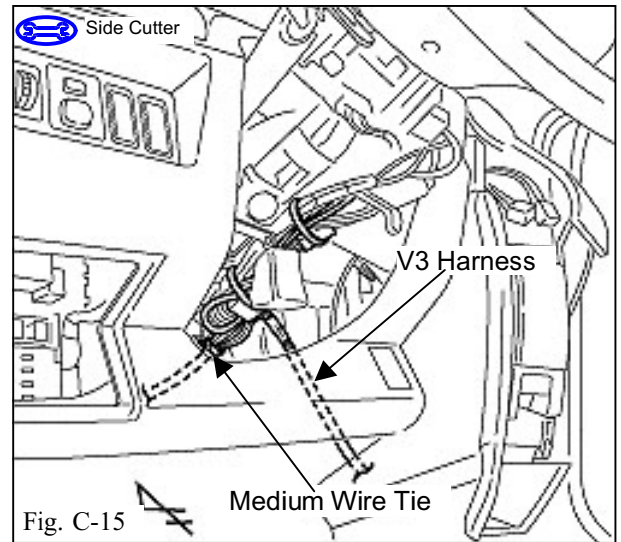

Fig. C-15
30. Route and secure the V3 harness to the vehicle harness with one medium wire tie below the steering column. (Fig. C-15)